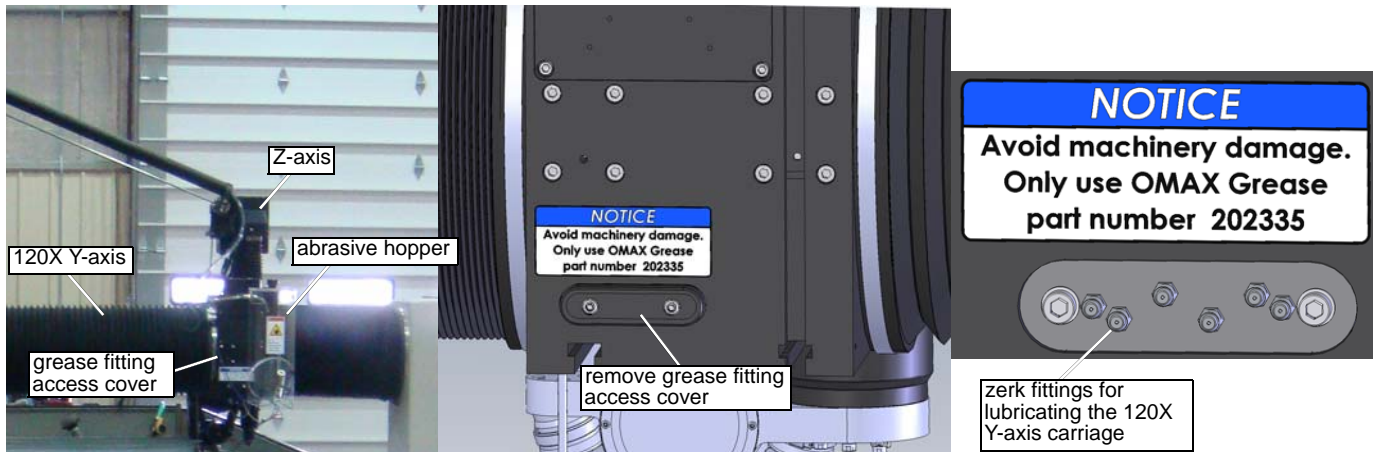

Figure 6-23: The 120X Y-axis lubrication fittings
2. Locate and remove the access cover to the Y-axis grease fittings (Figure 6-23).